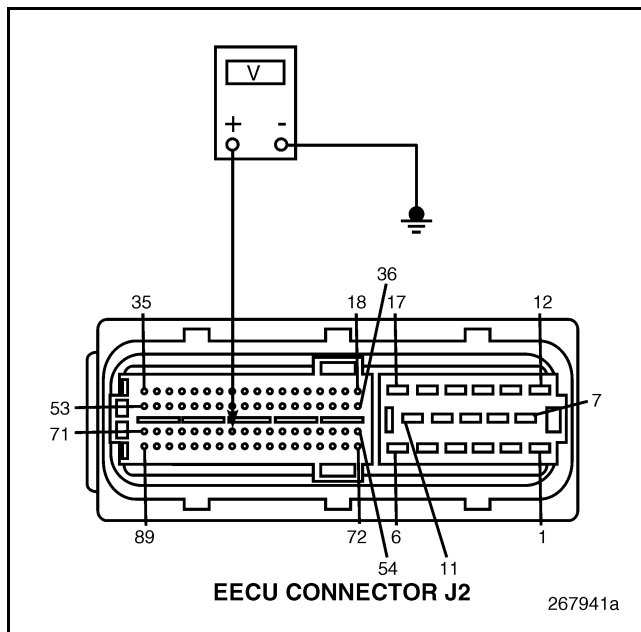

Figure 286
5. Measure the voltage between EECU harness connector J2 pin 64 and a good ground (see Figure 286).